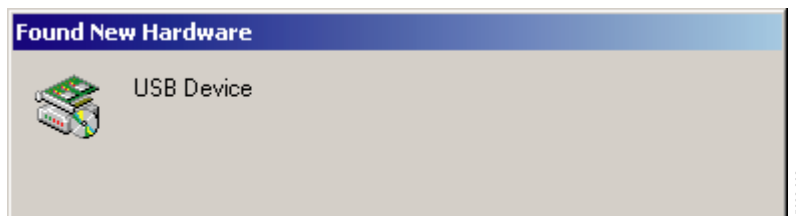

Figure 2.
3. When the USB cable is connected, a pop-up window (Figure 2) appears and then disappears.